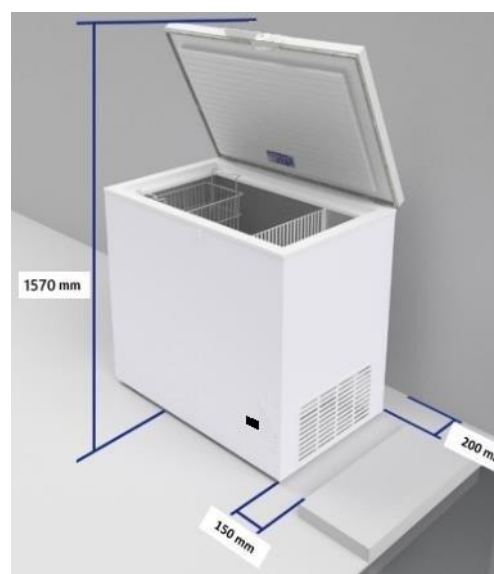

Fig. 4- Minimum Distances for installation.
- Make sure that air circulates freely around the equipment complying with the minimum distances illustrated in Fig. 4.